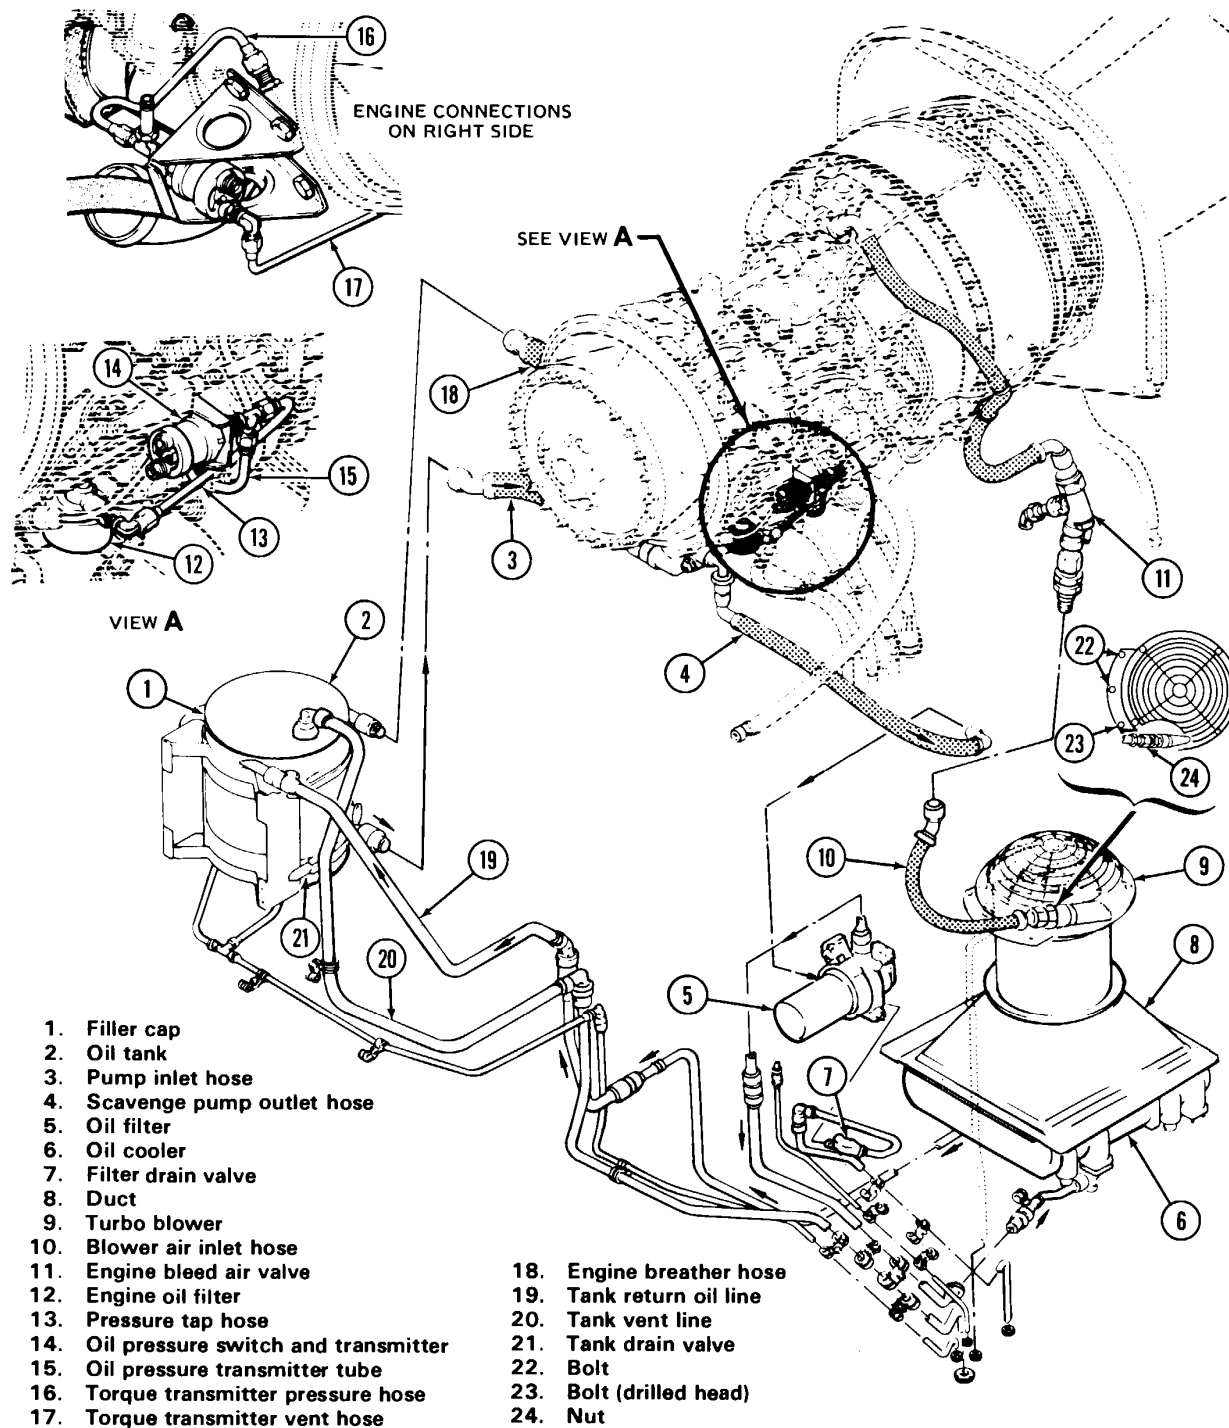

Figure 79-1. Engine oil components
Engine lubricating oil is supplied from a tank mounted on the forward firewall at right side of engine compartment. The oil flows to inlet port of an engine-driven, dual-element pump on front of the engine accessory gearbox. Oil is delivered under a relatively constant volume and variable pressure, maintained by a pressure relief valve on the pump, to a filter on the left side of accessory gearbox. Through a system of external transfer tubes and internal passages, the engine receives adequate gear and bearing lubrication. A scavenge section of engine oil pump directs oil through external lines to an oil filter, then to the oil cooler. Depending upon temperature of the scavenged oil, it is either circulated through cooler or routed directly back to oil supply tank through a bypass valve. (Refer to Figure 79-1 for engine oil system components.)
79.2.1.1 Drain oil cooler by opening valve below cooler outlet. (Refer to Figure 79-1.)
79.3.1.3 Cut lockwire, loosen tank strap turnbuckles, and remove tank from support. (Refer to Figure 79-1.)
- 79.4.1.4 Remove filter body (5, Figure 79-1) and element and remove packing from top of filter body.